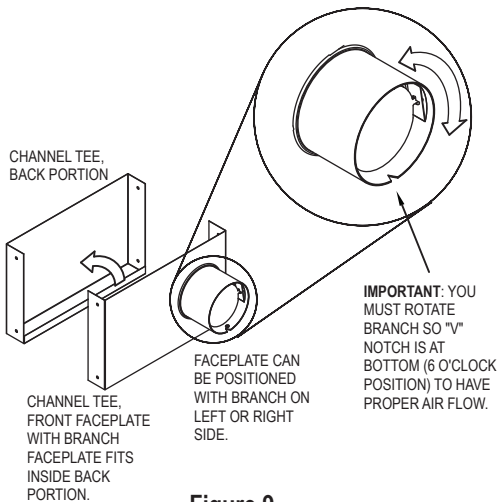
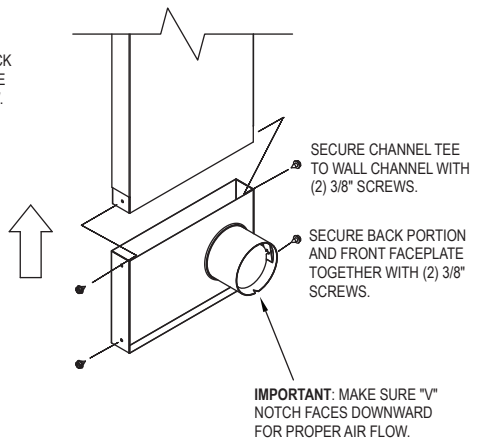

Figure 9
Figure 10
Step 5. Install Channel Tee. The Channel Tee is installed into the bottom of the Wall Thimble or the Adjustable Wall Channel, depending on your installation. The Channel Tee is in two parts, the front faceplate with branch and the back portion (**Fig 9**). The front portion is the faceplate of the Channel Tee and has the branch and damper that allows the air to flow from the Thimble to the flex. The back portion fits against the wall and holds the front portion securely in place. The branch can be switched to the left or right side depending on which side of your appliance the air-inlet is located.
Important: Regardless which side the branch is located it is important that the branch be rotated into the proper orientation. The branch must be rotated so that the “V”-notch is at the bottom (6 o’clock position), allowing the damper to remain closed when at rest (**Fig 9**). The damper is to ensure the air flows from the Wall Thimble or Channel into the appliance, and not in the other direction.
After choosing which side the branch will be on, insert the front faceplate into the back portion of the Channel Tee. The sides and bottom edge of the front faceplate fit inside the back portion (**Fig 9 & 10**). It is highly recommended that waterproof sealant be used inside the Channel Tee where the front faceplate meets the back portion to prevent any possible leakage of condensate that may occur. Install the Channel Tee itself by sliding it over the bottom of the Wall Thimble or Adjustable Wall Channel. Secure the Channel Tee in place with (2) 3/8” black screws on both sides (**Fig 10**).